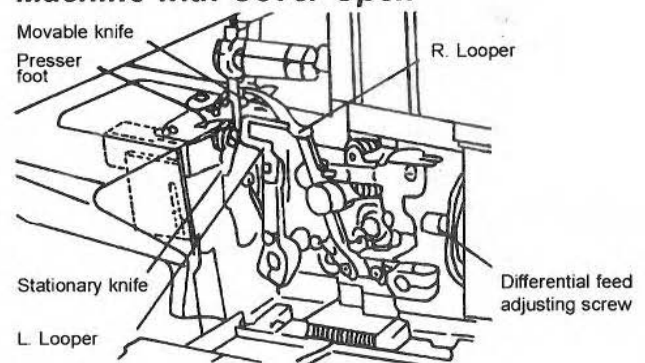

Figure 2
2. Differential feed adjusting. Figure 2